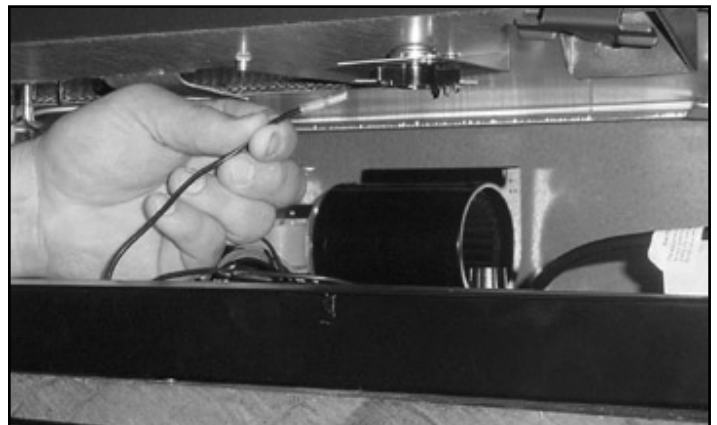
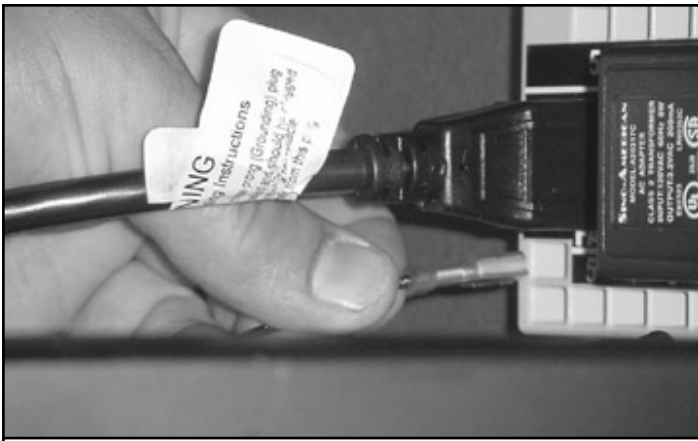

Figure 6 Attaching Wire from Blower Control to Temperature Sensor Switch
Figure 7 Wire from Blower Control to Junction Box
- Slide the control knob on the post of the speed control, then set the speed control on the bottom pan of the appliance. Attach one wire from the blower control to one side of the temperature sensor switch. See Figure 6. Plug the other wire from the variable speed switch into the junction box as shown in Figure 7.